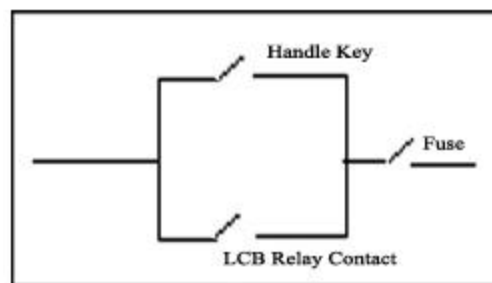

Fig. 3
1- In order to turn on lights by computer, put prepared relay contact with on/off handle key in parallel mode fig.3
**Note 2:** For safety, it is advised to use an appropriate fuse with handle key/ LCB relay contact in a series circuit. (fig. 3)